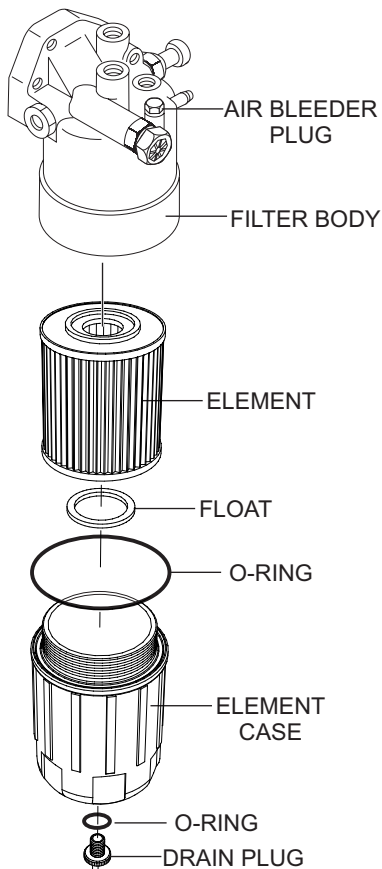

**Figure 84. Draining The Fuel Filter**
1. Loosen the air bleeder plug (Figure 84) on the fuel filter body.